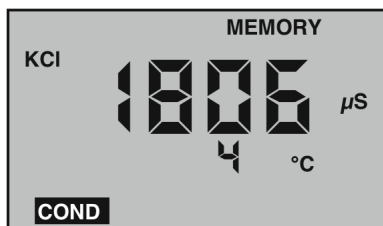

Figure 6
2. “MEMORY” will appear and the temperature display will be momentarily replaced by a number (1-100) showing the position of the record. Figure 6 shows a reading of 1806 μS stored in memory record #4.